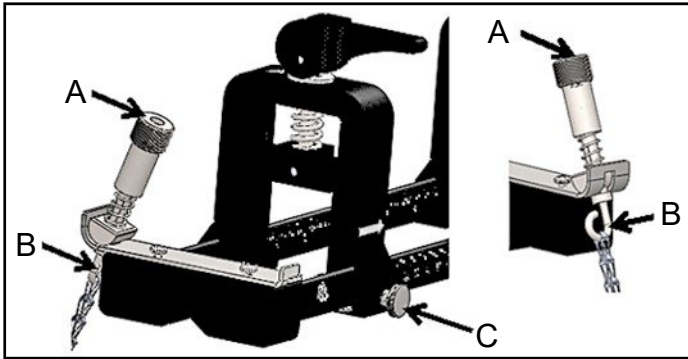

Figure 8: Bracket Preliminary Setup
1. Before mounting the clamp-on fixture, refer to Figure 8 on page 10 and proceed as follows:
- Ensure that the chain mechanism screws (A) that are attached to the end piece flats are fully loosened.
- Ensure that the last link on the chain is secured within the chain mechanism screw slot (B) on both sides of the end piece.
- Ensure that the thumb screw (C) is tightened on the movable clamp so that no motion is allowed during the mounting process.